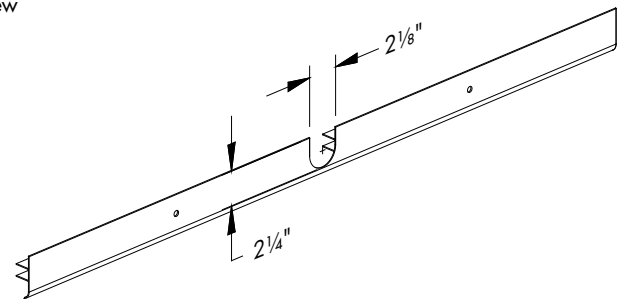

Figure 17B
**NOTE:** Pad Retainer will need to be notched, so it can be installed under supply pipe near center of system. See Figures 17B and 17C.